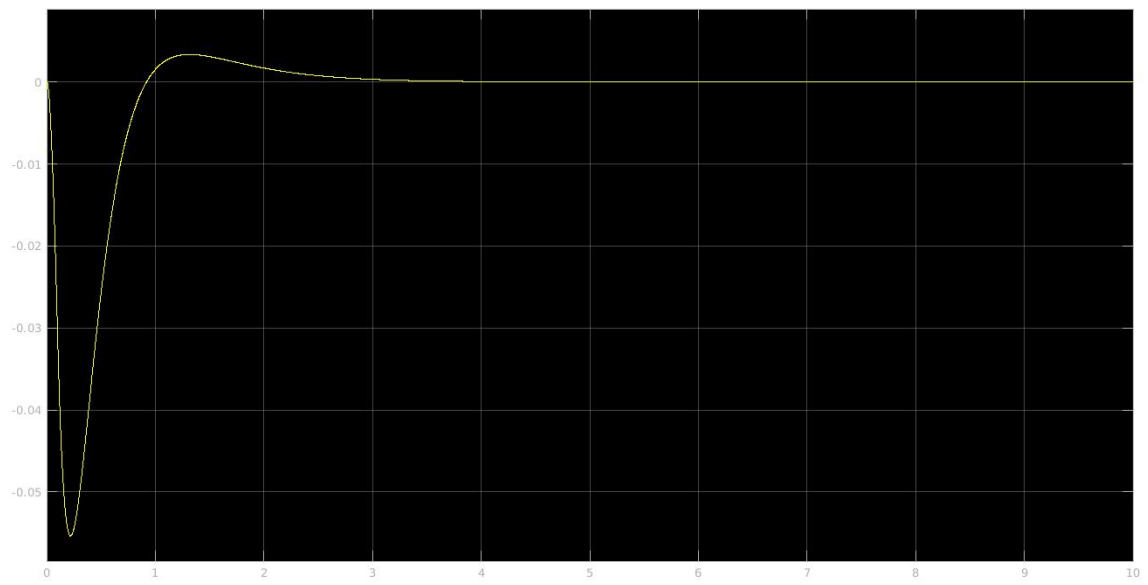
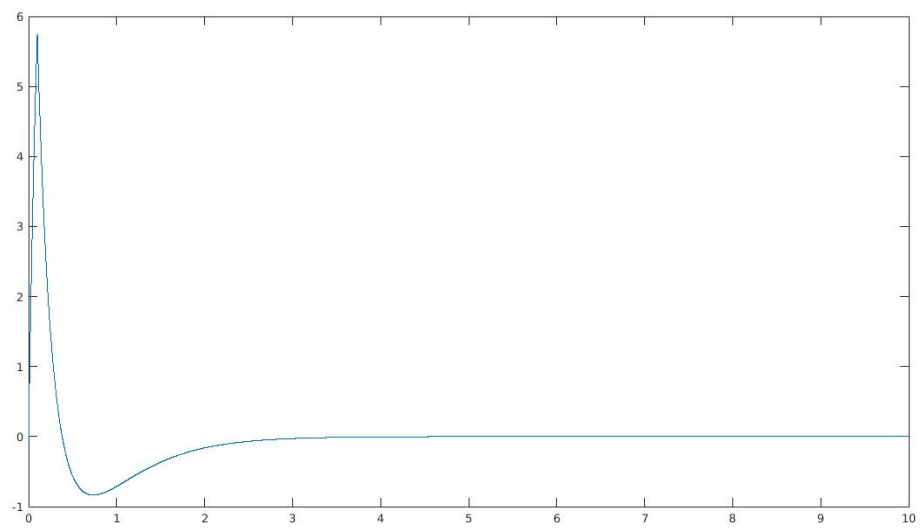

Figure 2:  $\theta_b$  for the system
Figure 3:  $v_m$  for the system
6.2.4: The plots of  $\theta_b$  and  $v_m$  are found in Figure 2 and Figure 3